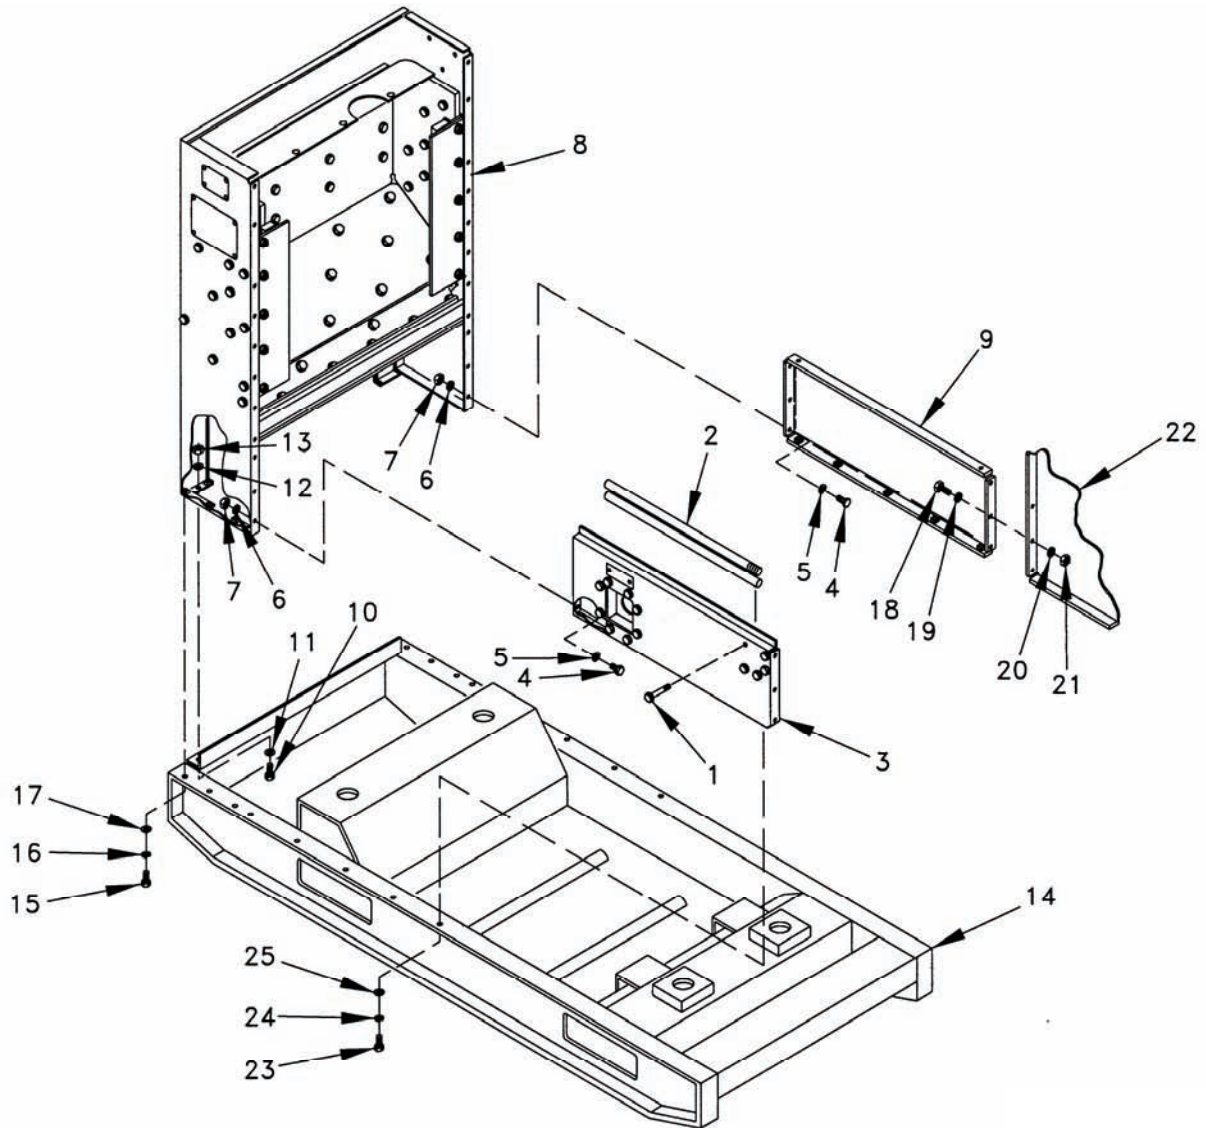

Figure 5-9. Front Housing Assembly and Side Panel.
- a. Remove bolt (1, Figure 5-9) and ground rods (2) from inside left side panel (3).
- b. Remove six bolts (4), lock washers (5), washers (6), and nuts (7) securing front housing assembly (8) to side panels (3 and 9). Discard lock washers (5).
- c. Remove two bolts (10), lock washers (11), washers (12), and nuts (13) securing the front housing assembly (8) to skid base (14). Discard lock washers (11).
- d. Remove six bolts (15), lock washers (16), washers (17), and front housing assembly (8). Discard lock washers (16).
- e. Remove three bolts (18), lock washers (19), washers (20), and nuts (21) securing right side panel (9) to right rear panel (22). Discard lock washers (19).
- f. Remove seven bolts (23), lock washers (24), washers (25), and right side panel (9). Discard lock washers (24).